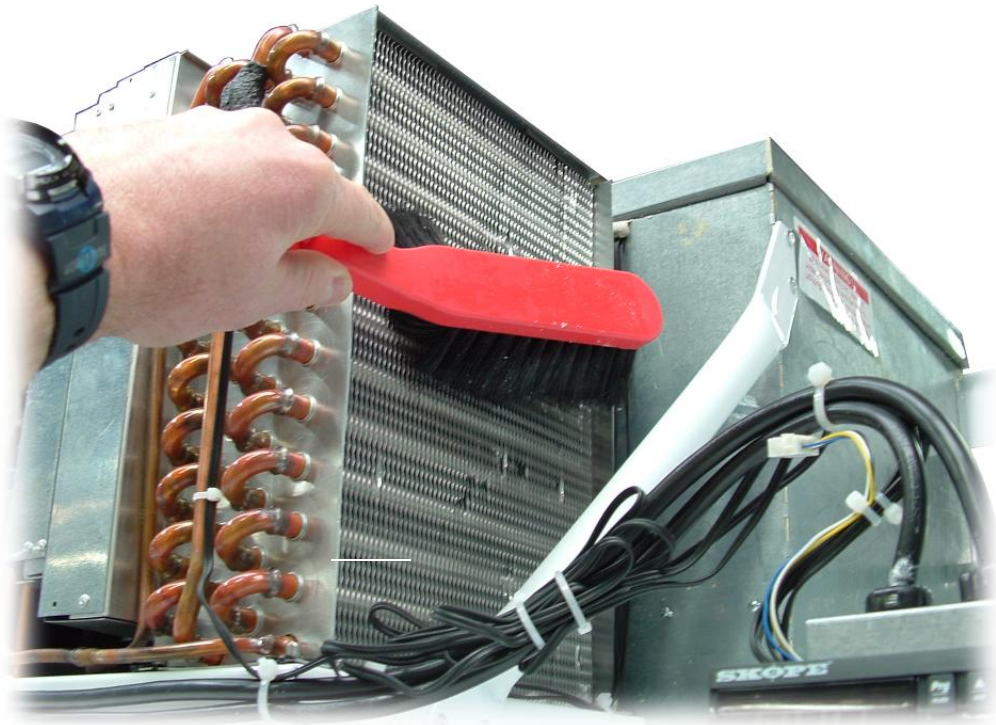

Figure 6: Cleaning the Condenser Coil
To ensure trouble free performance, the condenser coil should be brushed clean once a month (see Figure 6 on page 19) and blown clean by qualified service personnel every six months. If the electronic controller display flashes '**cht**' the condenser coil immediately needs cleaning.
3. The condenser coil is now accessible for cleaning (see Figure 6 on page 19).